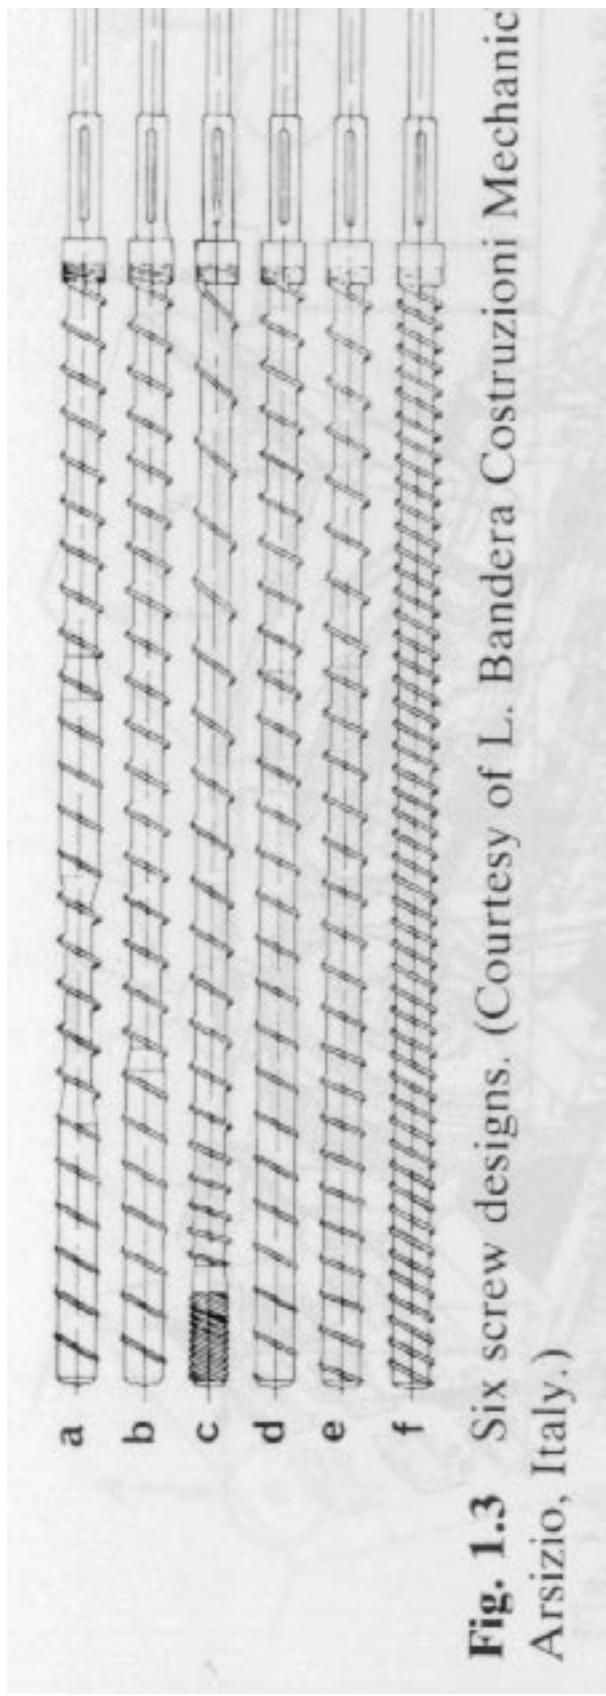

Fig. 1.3 Six screw designs. (Courtesy of L. Bandera Costruzioni Mechanic Arsizio, Italy.)
- 1) For the screw extruders shown on page 5 figure 1.3 explain what the various arrangements of screw threads might be achieving in a processing application.